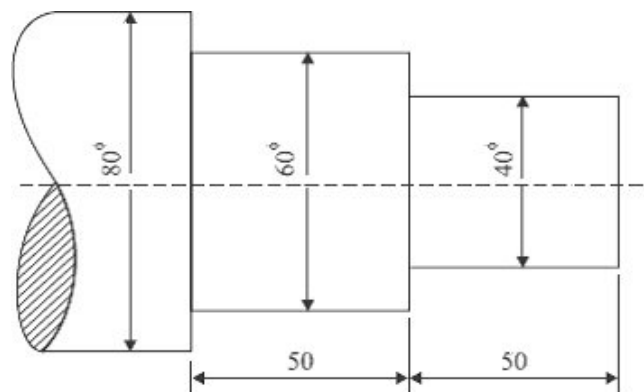

Fig. 5.22
**Example 1:** Calculate the machining time to turn the dimensions shown in Fig. 5.22. Starting from a M.S. bar of dia 80 mm. The cutting speed with HSS tool is 60 meters per minute and feed is 0.70 mm/rev., depth of cut is 2.5 mm per pass.